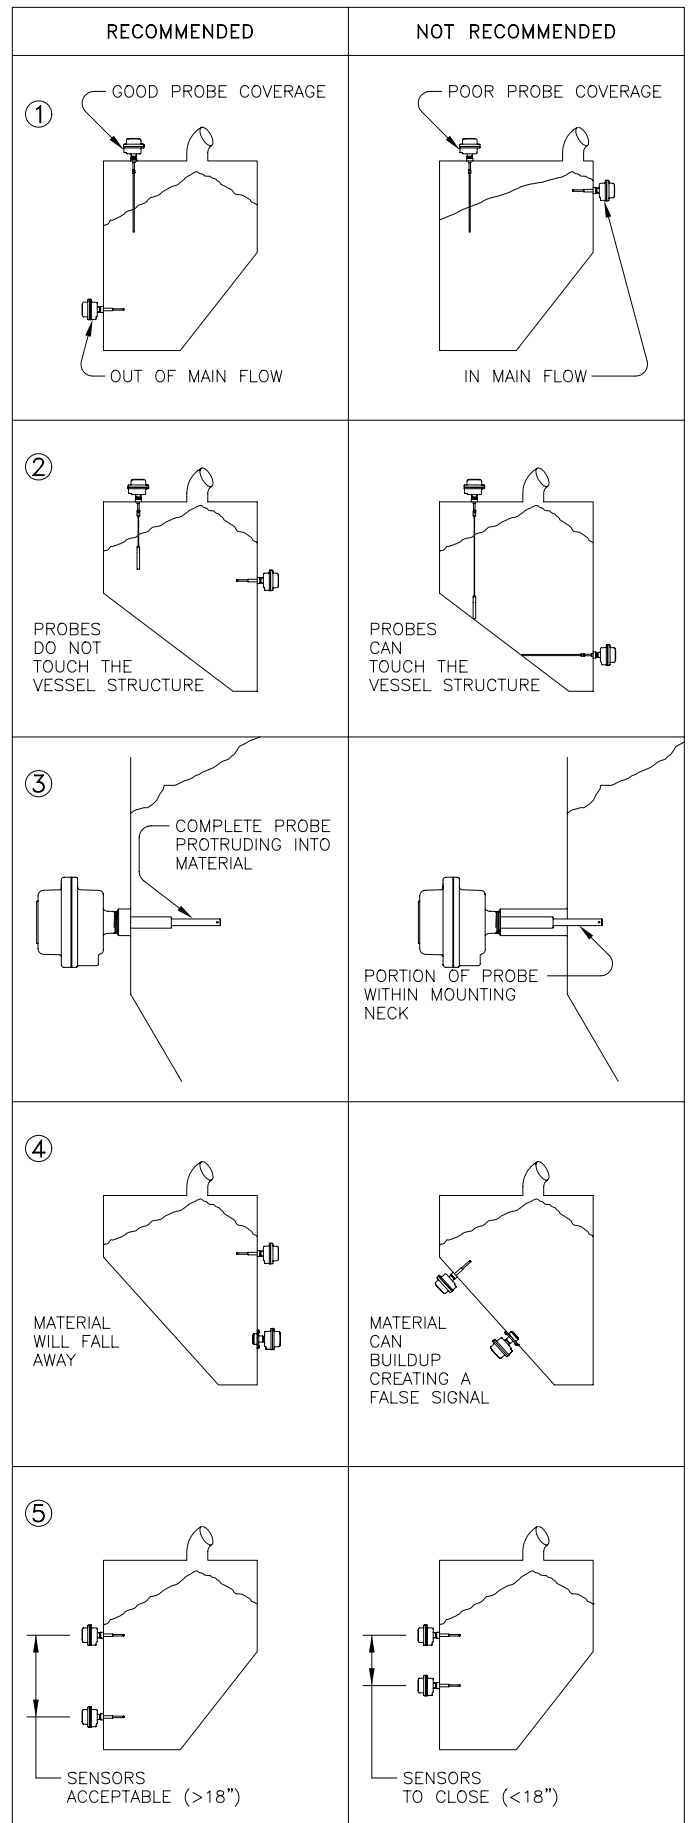

Figure 1
**Choosing a Location:** (see Figure 1)